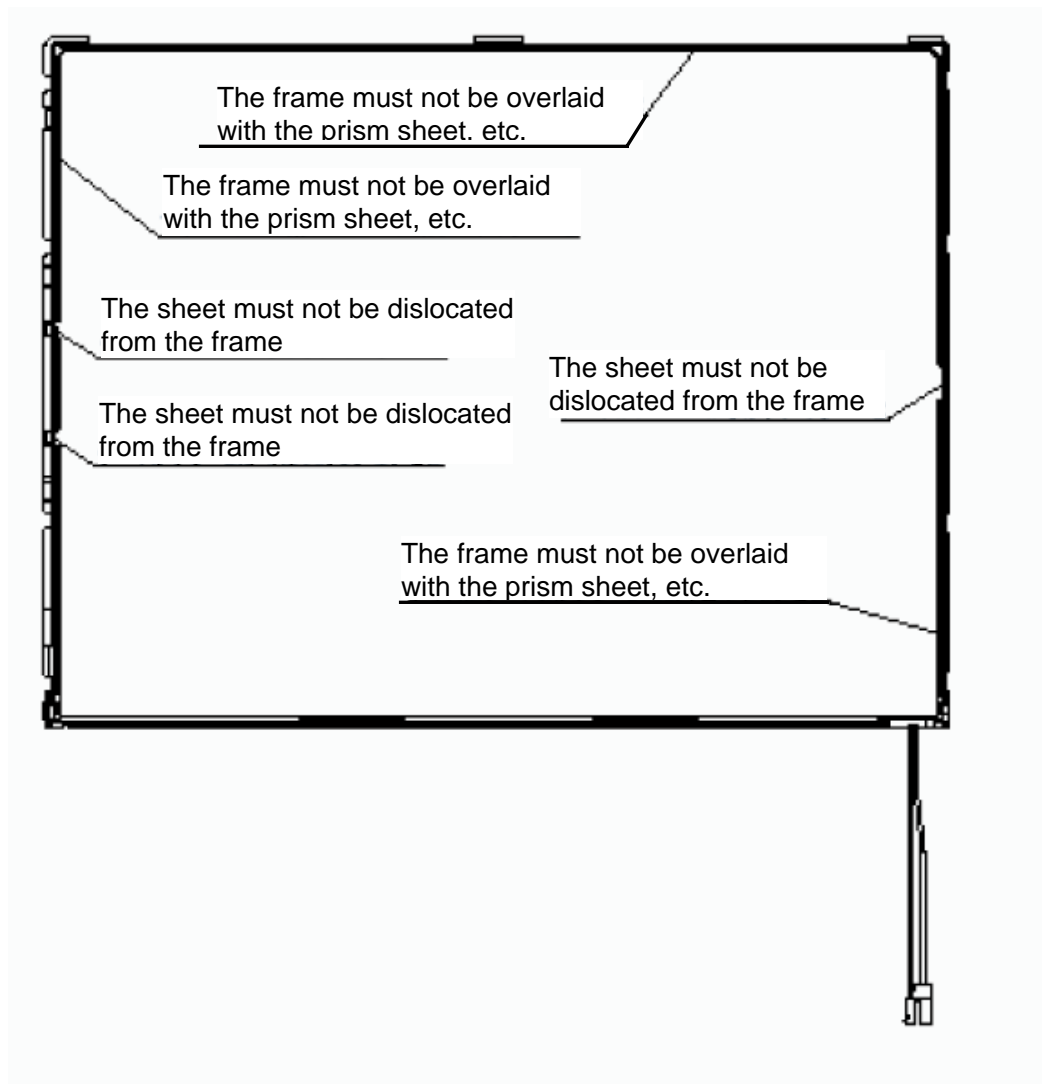

Figure 4-47 Replacing 14.1 Inch TMD fluorescent lamp (XGA) (6)
1. Check the following items according to Figure 4-47.